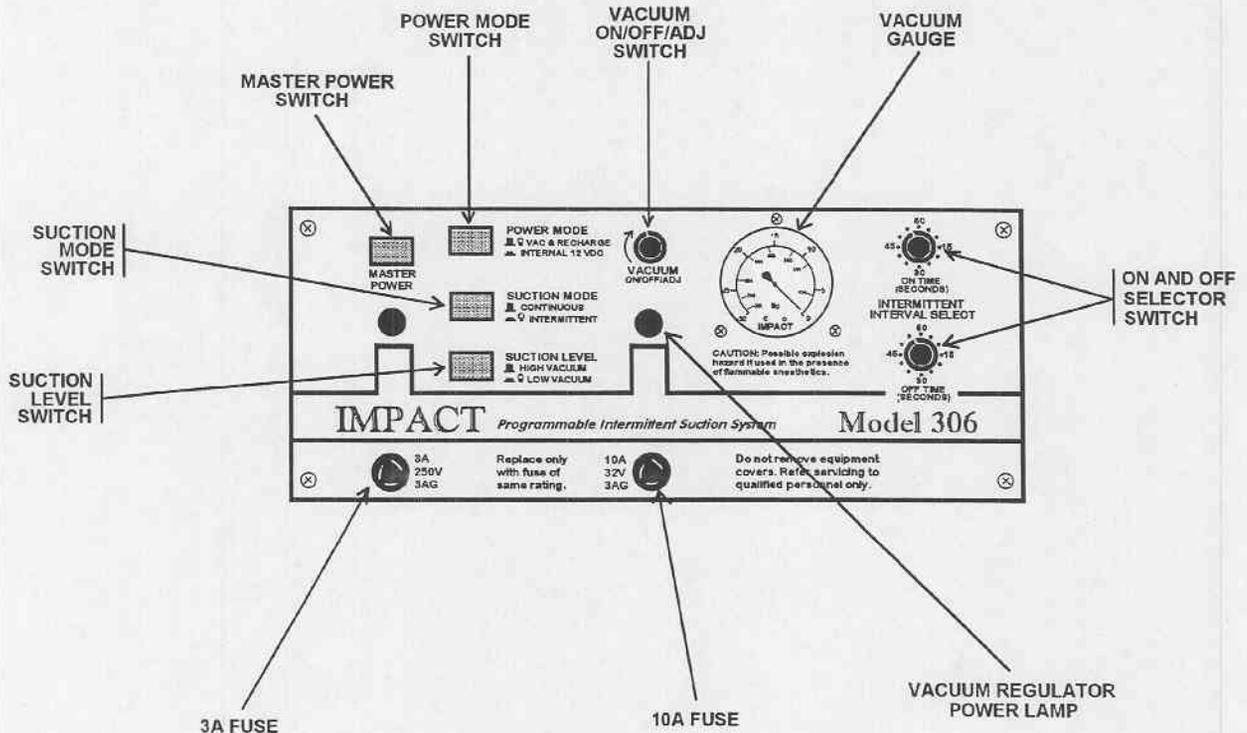

Figure 2-3. Front panel controls and indicators.
a. *Front panel controls and indicators (fig 2-3).*